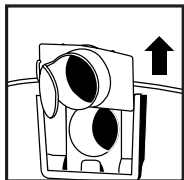

FIGURE 28
40. Remove inlet deflector from deflector guide. **FIGURE 28.** NOTE: Hose must be removed before inlet deflector can be taken out.